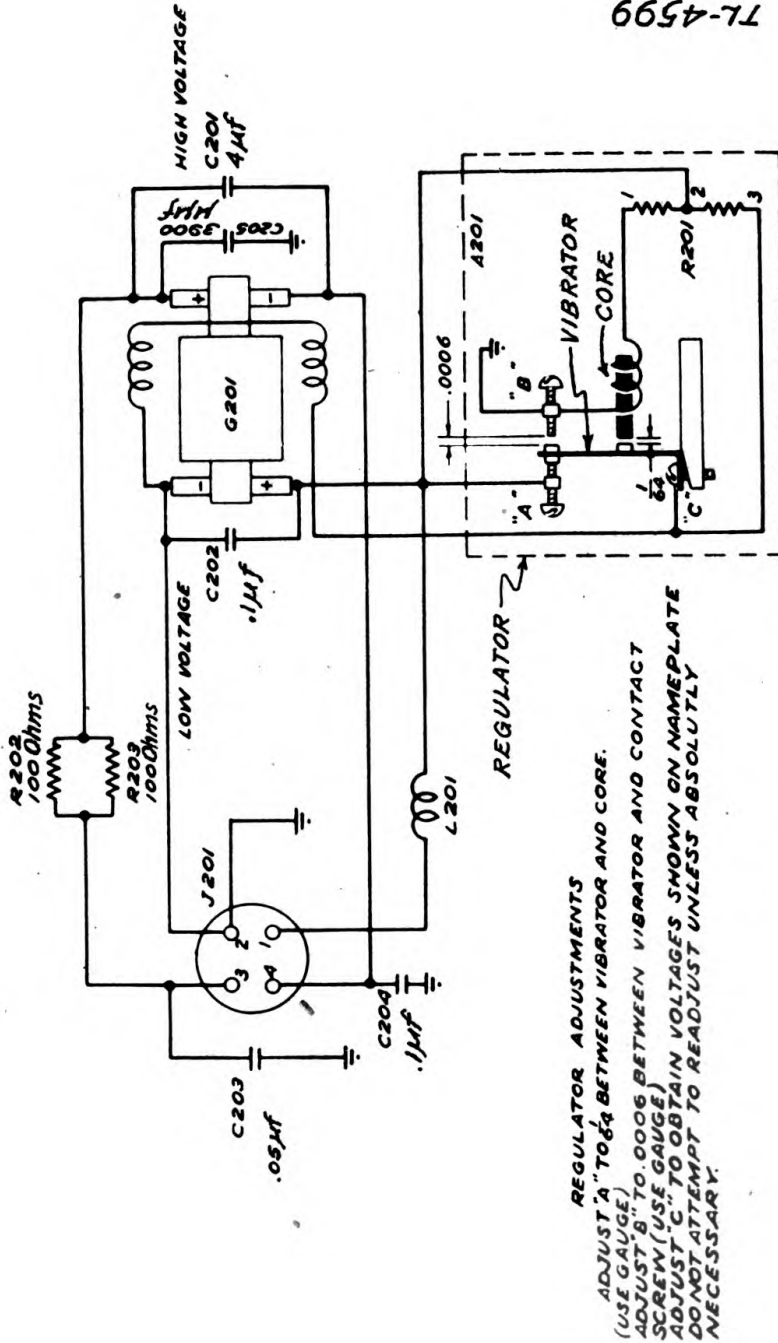

FIGURE 21.—Generator GN-44-A—schematic diagram.
14. Generator GN-44-A.—*a. Function.*—The hand-driven generator is designed to supply the required output of d-c power for the transmitter and the receiver. Its circuits are shown in figures 21 and 34.
c. *Field* (see figs. 21, 28, 29, and 30).—The two field windings 31 and 32 are in series and are connected across the low-voltage brushes. When the armature is rotated, a small residual flux in the pole pieces causes a voltage to be built up across the brushes. This voltage supplies current for the field winding which in turn adds to the flux in the pole pieces. *It is essential that the generator crank be turned in the*
e. Filter circuits (see fig. 21).—A filter system is provided within the generator in both the high- and low-voltage output circuits. This filter provides filtering in such a manner that the output voltage may be applied directly to the transmitter. However, if the receiver is to be operated from the generator, filter FL-10 must be used to supply further filtering. The generator filter in the low-voltage circuit consists of capacitor C202 directly across the low-voltage brushes and coil L201 in series with the A+ lead. In the high-voltage circuit the filter consists of capacitors C203 and C204 from the B+ and B- terminals, respectively, to ground; capacitor C205 from the positive brush to ground, parallel resistors R202 and R203 in series with the B+ lead, and capacitor C201 across the high-voltage brushes.